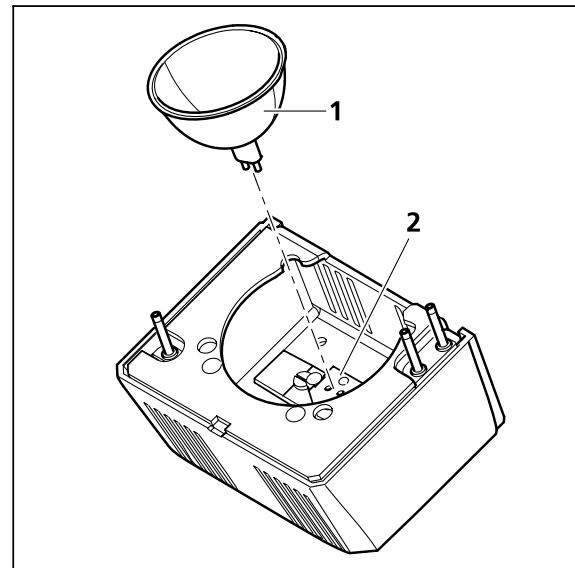

Fig. 3-22 Inserting a halogen lamp 12 V, 50 W
- Remove a used halogen lamp 12 V, 50 W (if necessary) by pulling it out of the cap (Fig. 3-22/2) in an upward motion.
- Press the new lamp (Fig. 3-22/1) with its two cap pins delicately and carefully into the lamp cap (Fig. 3-22/2). Be careful not to touch the protective glass of the lamp. The lamp mustn't be canted in order to avoid bending its cap pins or damaging the lamp holder.